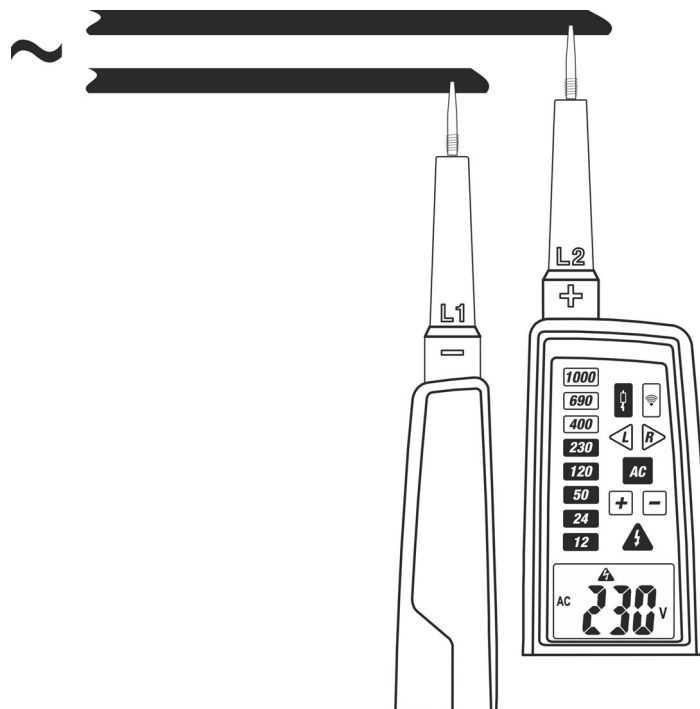

Fig. 6: AC Voltage measurement with low impedance value
2. Connect the L1 and L2 probes to the object under test (see Fig. 6). The measurement is performed **only with contact of probes directly on metal parts of conductors**